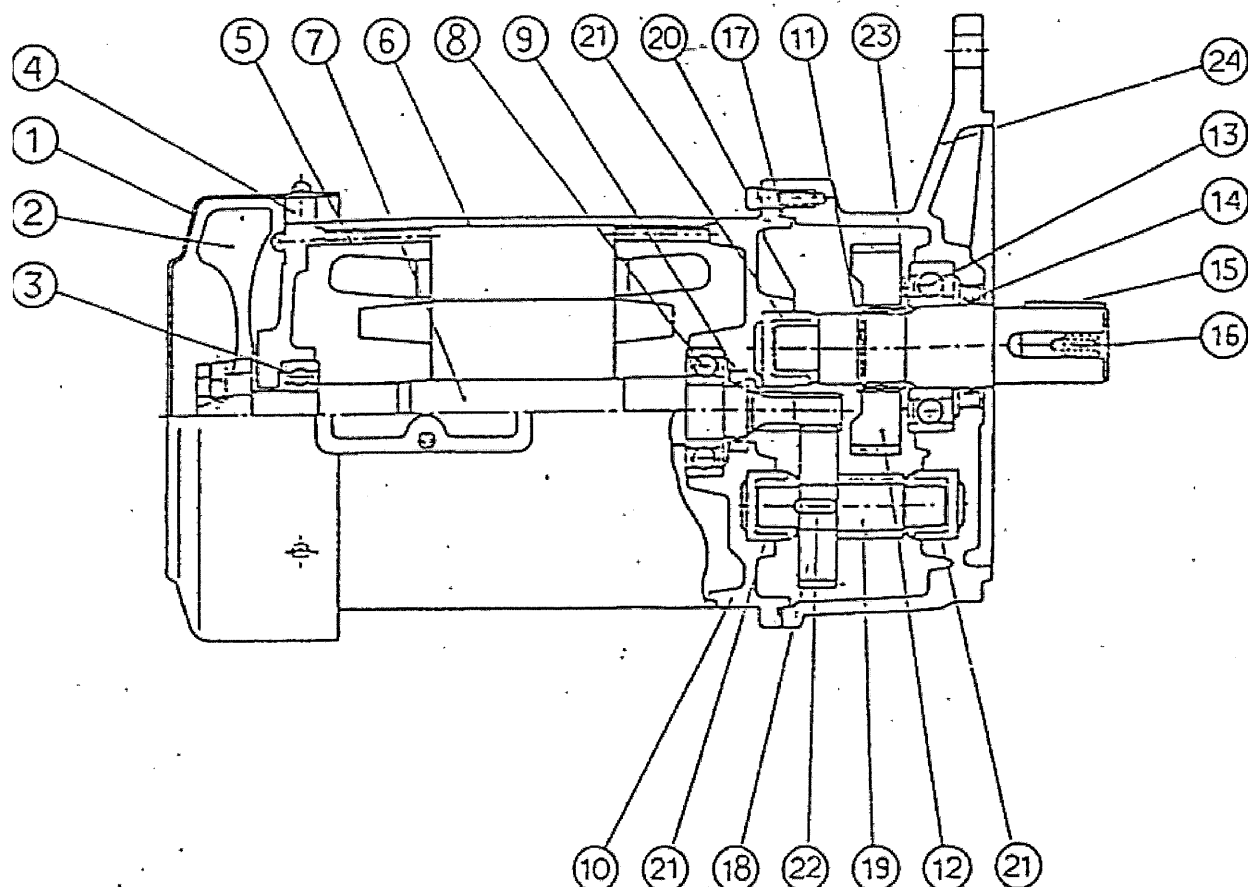

Fig.7
(1) As for sectional assembly drawing of the geard-motor, refer to Fig.7